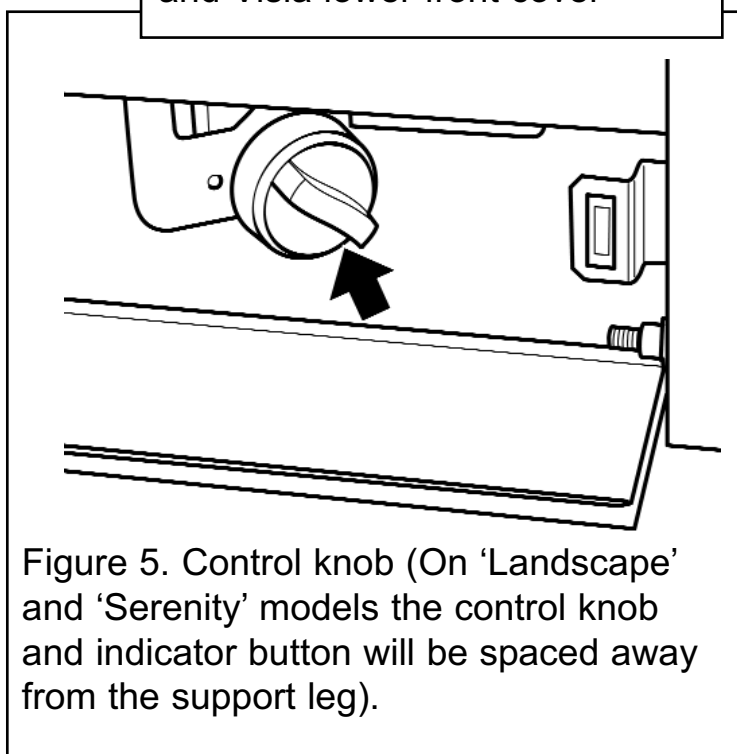

Figure 5. Control knob (On 'Landscape' and 'Serenity' models the control knob and indicator button will be spaced away from the support leg).
- Depress the control knob and turn anticlockwise towards the PILOT/IGN position (See figure 5). A spark should be generated at the pilot while turning. The spark should ignite the pilot. The pilot flame can be seen at the left side of the fuel effect.